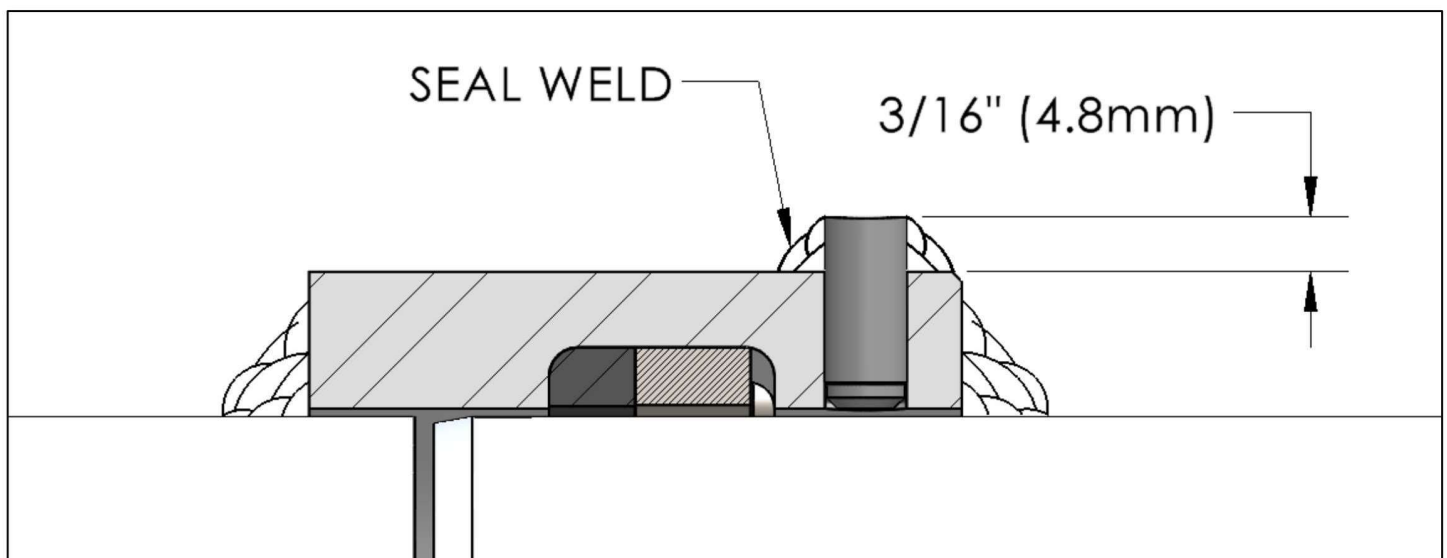

Figure 10
3. Cut or burn off the clamp screws approximately 3/16" (4.8 mm) above the outside surface of the Weld+Ends and seal weld around the clamp screws. (See Figure 10). One clamp screw per end may be removed to serve as a vent while welding the remaining clamp screws. Prior to completing the installation, the screw that was removed for venting must be reinstalled and seal welded.